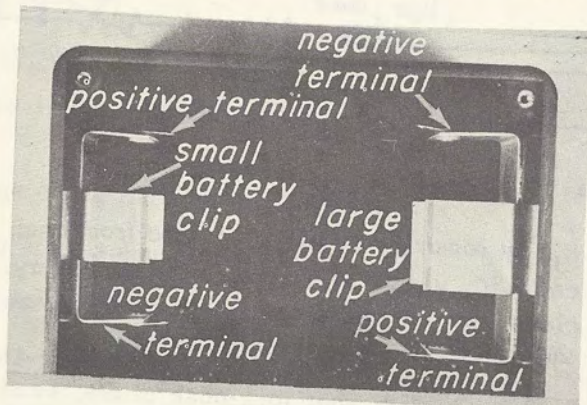

Fig. 8-3
Note: Before you try to mount either battery clip, look carefully at the battery clips from your kit. Notice that one is smaller than the other. It is made to fit the small 1.5-volt C cell, while the other clip is made for the 6-volt battery. Compare these clips with those shown in Fig. 8-3; note where each clip is placed when properly mounted. Then make sure that you mount each clip on the side on which it is supposed to go.
Step 3. Mount the second battery clip to the other side of the meter box, as shown in Fig. 8-3.